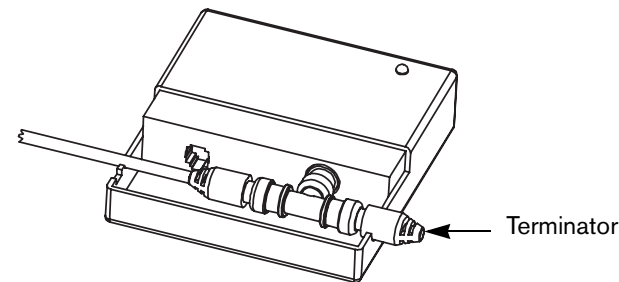

Figure 16: Install a terminator on the last wired floor unit
Important: The output connectors on the distribution unit must be terminated, with a terminator installed on an unused connector or on the last wired floor unit on the cable run. Refer to Figure 16. If the output connector is not terminated, the controllers may provide poor sound quality.
6. When you reach the last wired floor unit for a run of cable from an output connector, attach a terminator to the last T-Connector. See Figure 16.